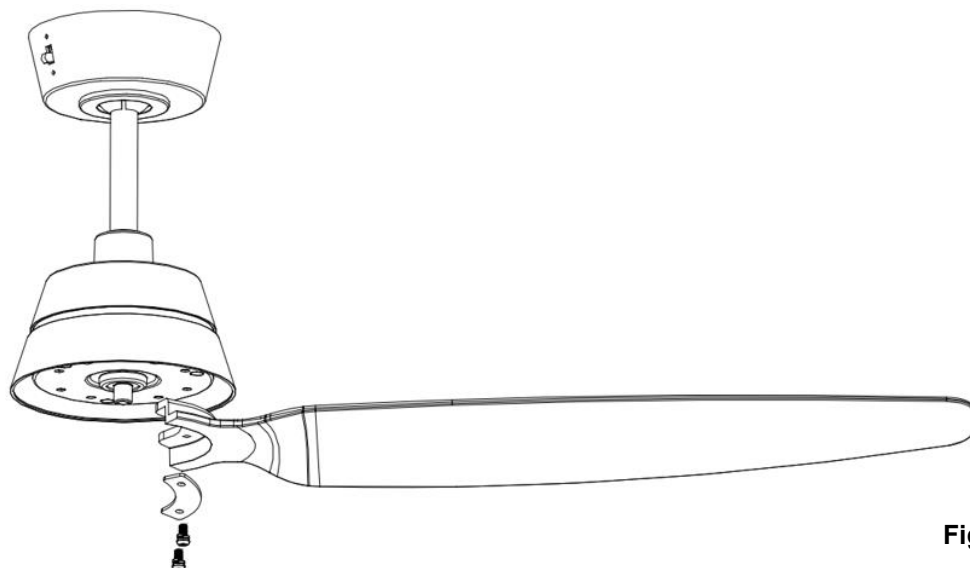

Fig. 5
**INSTALLATION OF BLADE (Fig. 5)**
1. Orientate the blade Support plate and fan blade onto the fan assembly (Fig.5)
Mount the fan blade onto the fan assembly using three blade screws with lock washers (supplied in fan parts bag) (Fig.5).